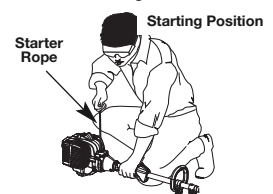

Fig. 9
WARNING: Avoid accidental starting. Make sure you are in the starting position when pulling the starter rope (Fig. 9). To avoid serious injury, the operator and unit must be in a stable position while starting.
5. Crouch in the starting position (Fig. 9). Squeeze the throttle control lever. Pull the starter rope 5 times.